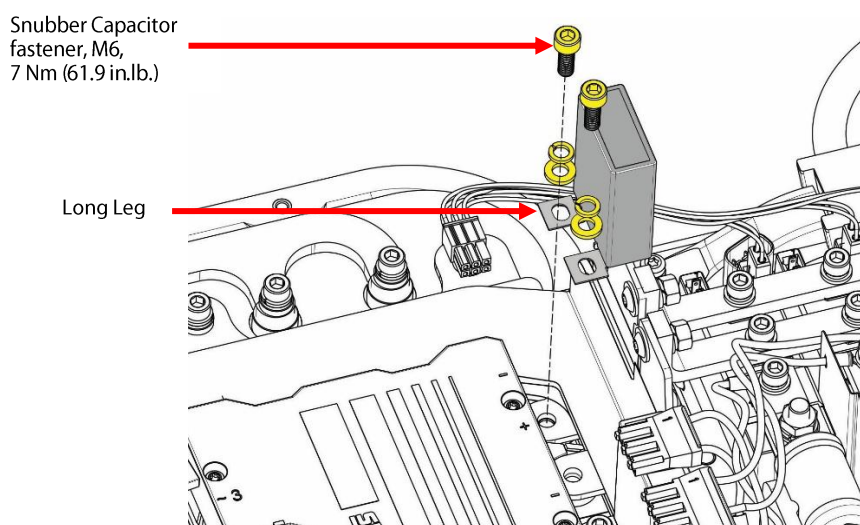

Figure 4 – Snubber Capacitor Install
2. Loosely install the new Snubber Capacitors again noting that one leg is longer than the other. The longer leg should be installed on the lower connection of the bus bars and Inverter. Refer to Figure 4 – Snubber Capacitor Install.